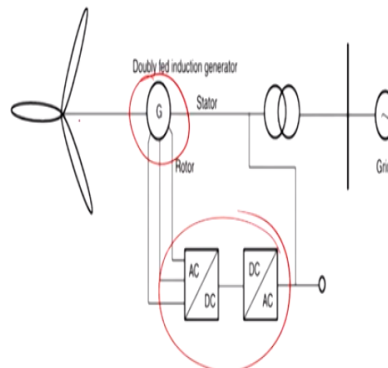

Fig.6: DFIG connected to grid in hybrid mode
- The schematic diagram of hybrid mode is shown in Fig.6.